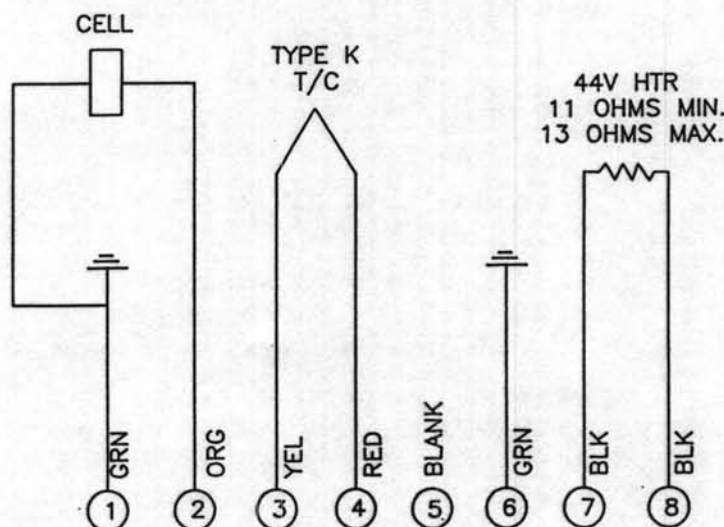

FIGURE 4
(5) WIRING DIAGRAM: THE PROBE SHOULD BE WIRED AS SHOWN IN FIGURE 4.
(6) CUSTOMER REPAIRS: THE FOLLOWING REPAIRS ARE THE ONLY REPAIRS WHICH THE CUSTOMER IS ALLOWED TO MAKE: